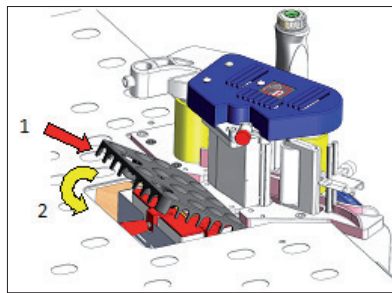
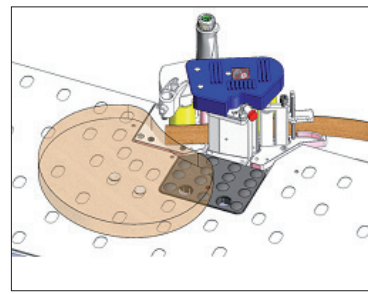

Fig. 11
Fig. 12
- Put the protection cover onto the edgebander (Fig 11) and begin the operation (Fig 12).